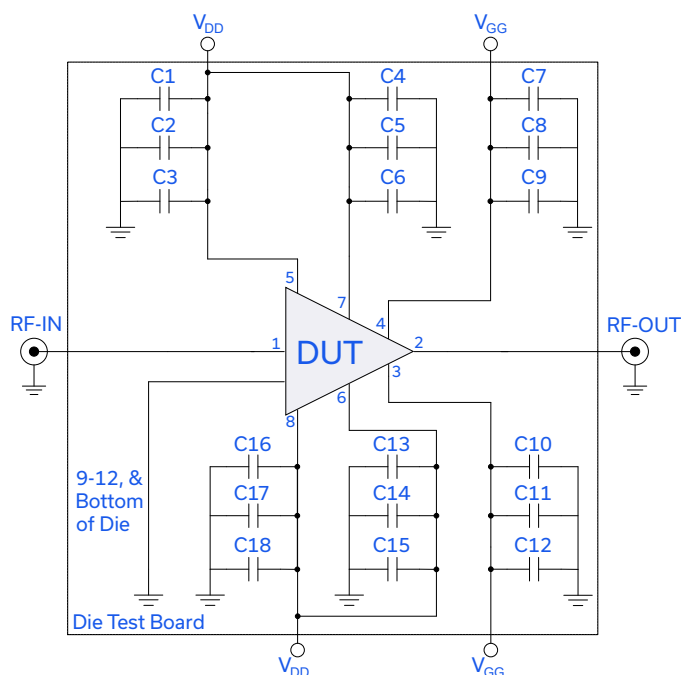

Figure 3. AVA-6183MP-D+ Characterization and Application Circuit
1. Tested on Mini-Circuits Die Characterization Test Board. See Figure 3. Loss de-embedded to the RF input and output wire bonds of the device.